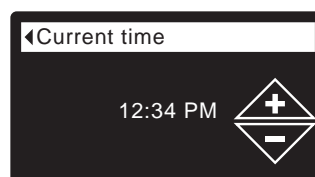

FIG. 38
5. Press the SELECT (O) button to display the Current time screen (See Figure 38).